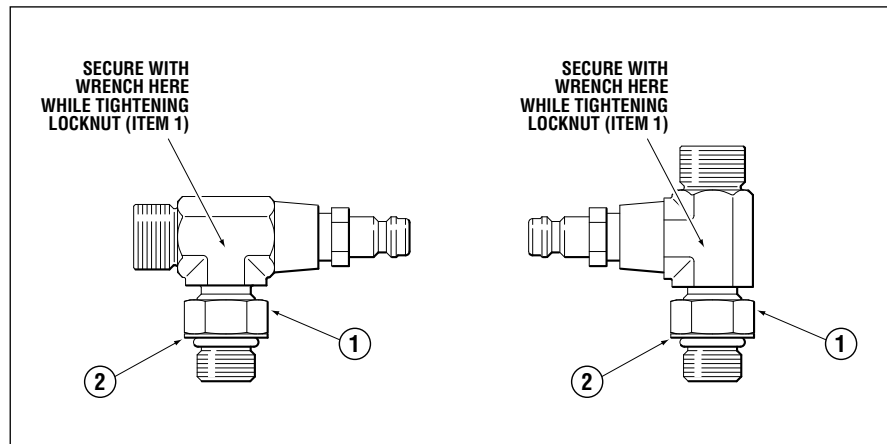

Figure 27.
1. Back off lock nut (item 1, figure 27), counter-clockwise, until it stops.
2. Thread fitting into cylinder body until fitting washer (item 2, figure 27) contacts the face of the cylinder port. Tighten hand tight, DO NOT TORQUE FITTING INTO GLAND.
4. While holding fitting with a wrench, tighten the locknut (item 1, figure 27) and torque to 40–43 ft-lb.
Failure to properly tighten the locknut (item 1, figure 27) may lead to loss of steering control. Loss of steering control may result in unpredictable boat behavior, collision with an obstacle and/or ejection from vessel, leading to property damage, personal injury and/or death.